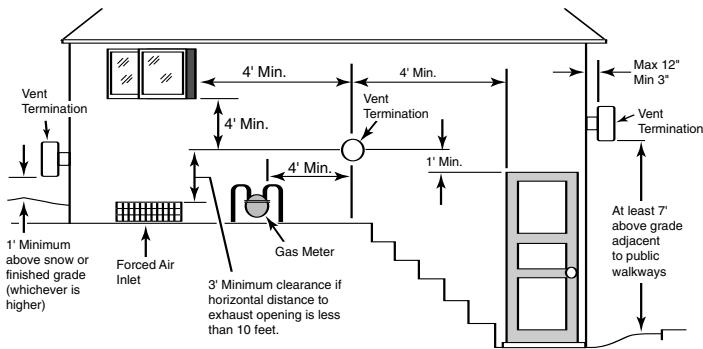

FIGURE 13: U.S. minimum Exhaust Vent clearances. Local
HORIZONTAL OR VERTICAL VENTING - POSITIVE PRESSURE (See Figure 13)
7. Vent Termination – Horizontal (See Table 7). Use a listed wall thimble and vent terminal from Table 7. The terminal must be located (U.S.-See Figure 13):